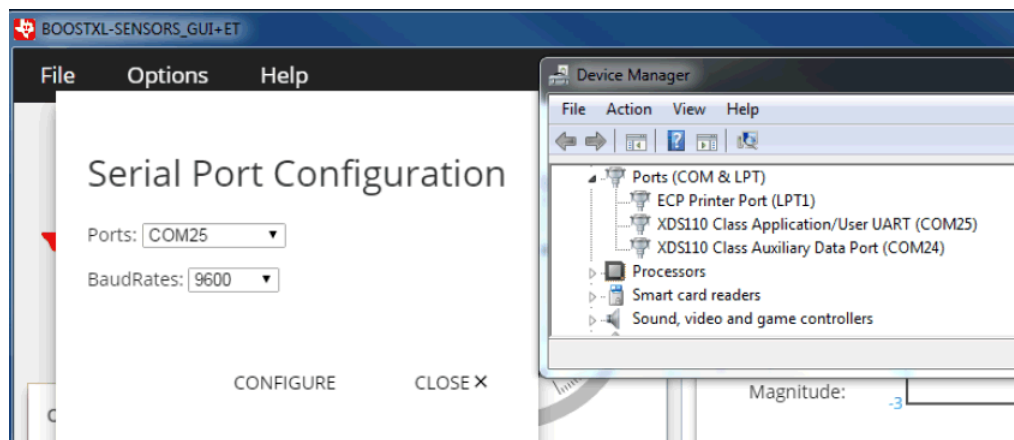

Figure 4. Setting up COM Port Configuration for the LaunchPad Development Kit
- If needed, go to "Options" and select the proper COM Port for the Application UART and the baud rate as 115200 (see Figure 4).